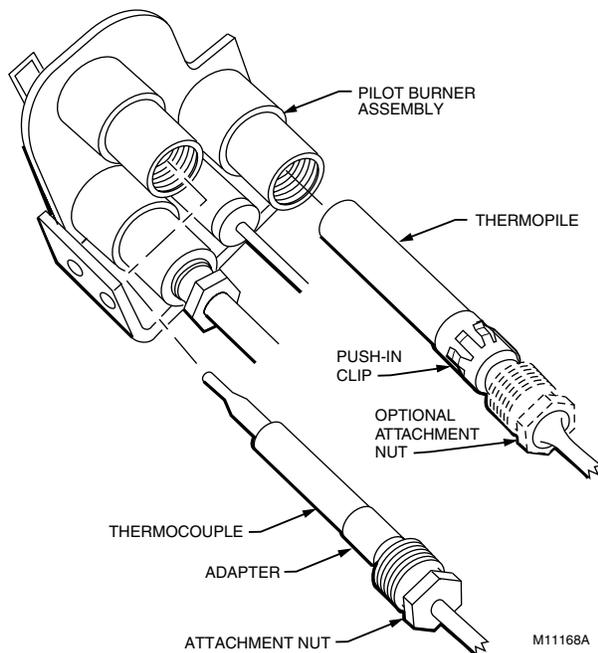

Fig. 21. Installing Q382 thermocouple and thermopile.
1. Insert the thermocouple or thermopile tip into the hole or barrel provided beneath the pilot burner. See Fig. 21.